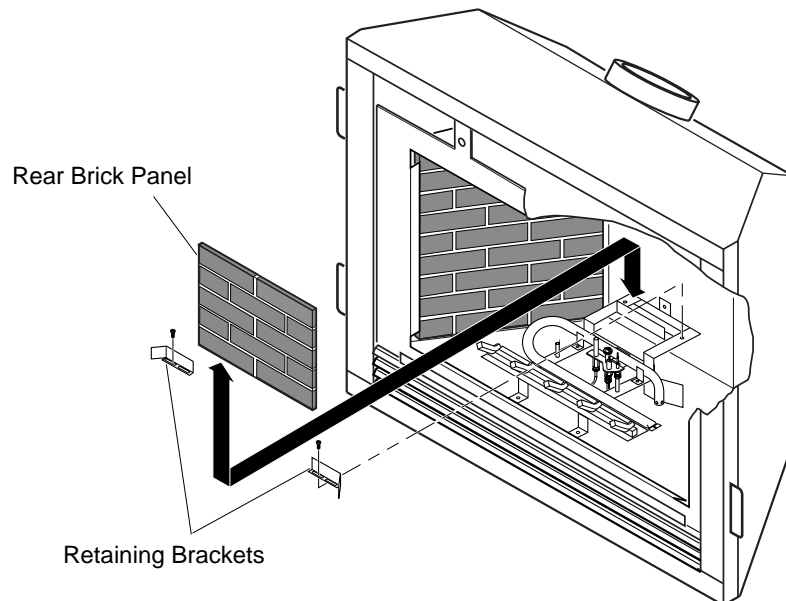

Figure 45 - Installing Rear Brick Panel and Retainer Brackets
7. Install rear brick panel. Rest bottom edge of panel on back edge of grate (see Figure 45).